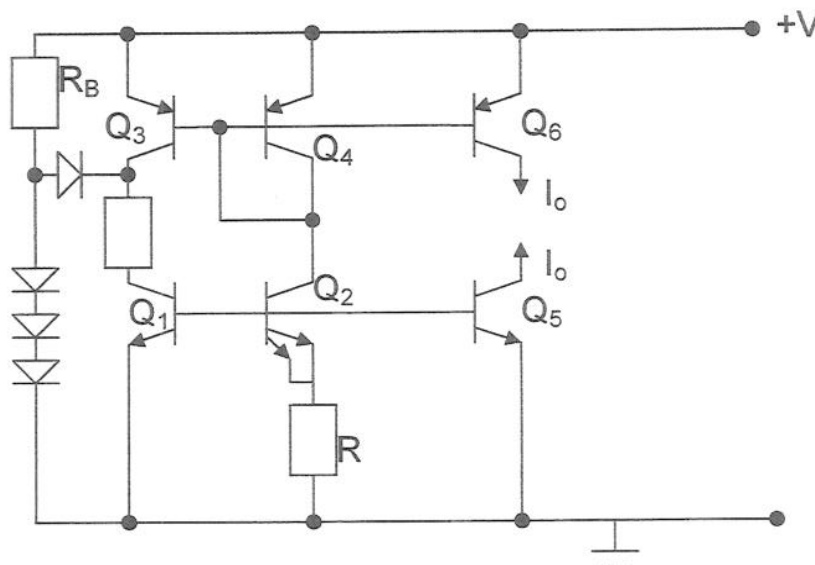

Figure 1.1
- (b) Calculate the fractional temperature coefficient for the constant current generator of Figure 1.1 at room temperature, given that R is a polysilicon resistor with a temperature coefficient of 1500 ppm/ $^\circ\text{C}$.